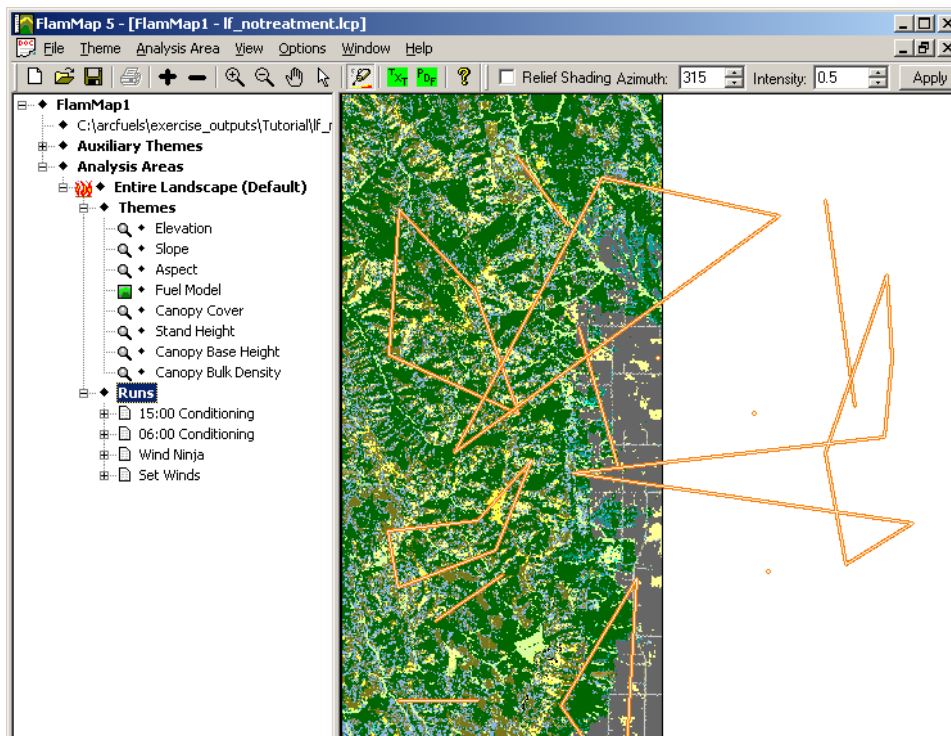

Figure 4-30—Ignitions created in FlamMap5 with the drip torch tool.
- 2) Play around a bit making various types of ignitions (fig. 4-30).